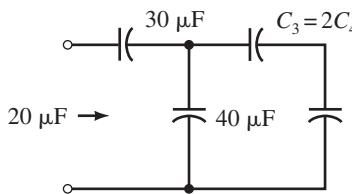

FIGURE 10-36
31. For Figure 10-36, determine C_3 and C_4 .